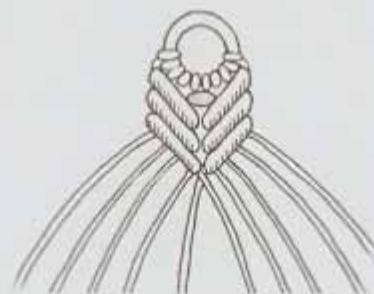

Fig. 4
7. Take Cords # 6 - 10 and make Rows 2 - 4 on the right side in a mirror image of the left half of the earring (see Figure 4). Cord # 10 (the outermost cord) will serve as your **AC** for each row.